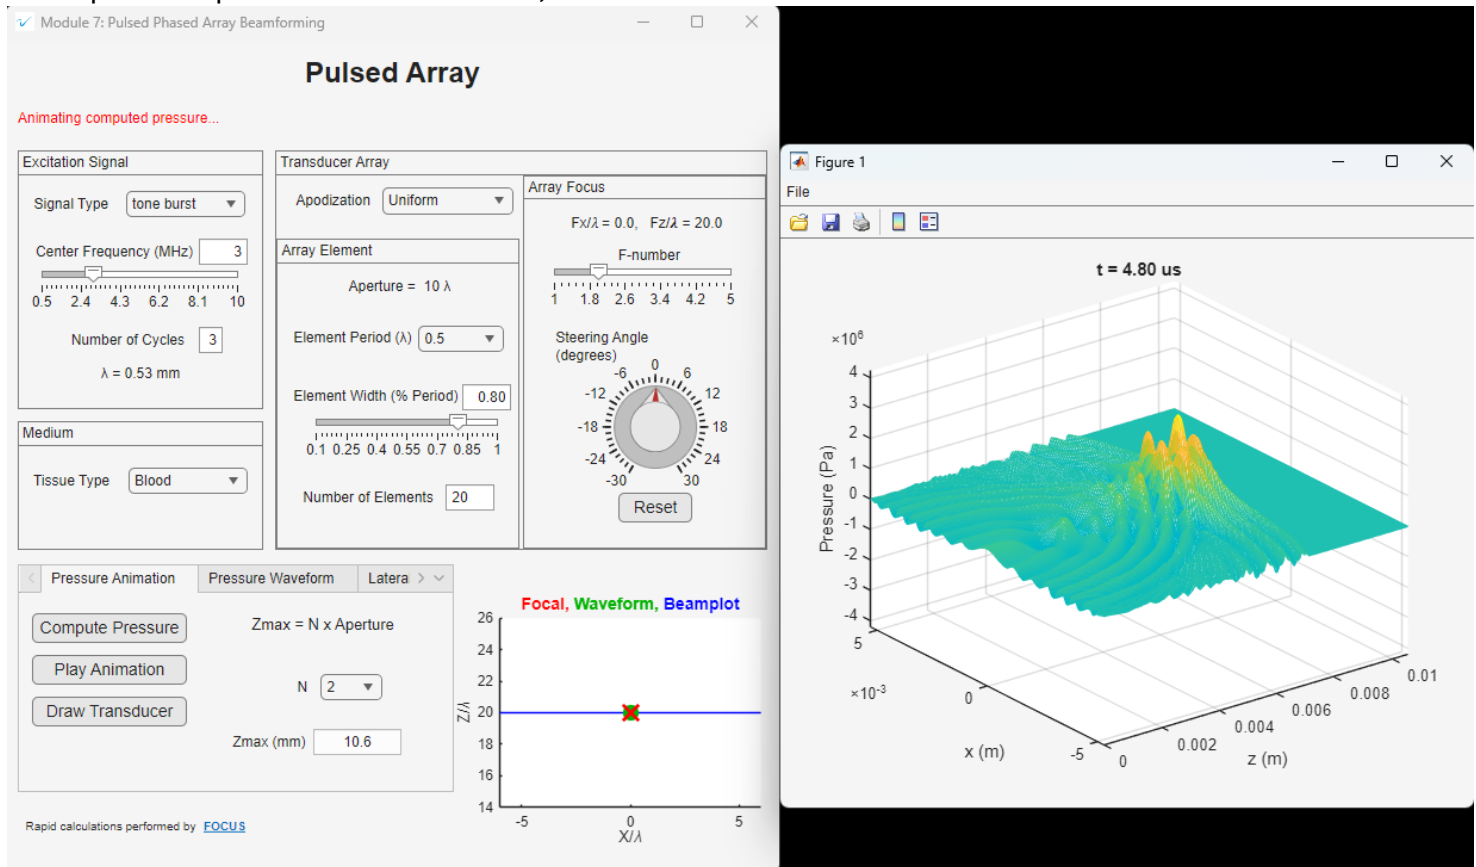

Figure 43: Pulsed Array Simulator GUI: Pressure Animation Example
- b. Click the Play Animation button to visualize an animation of the selected pressure wavefront. The delay time of the wavefront is shown above the plot during propagation. Refer to Figure 43.